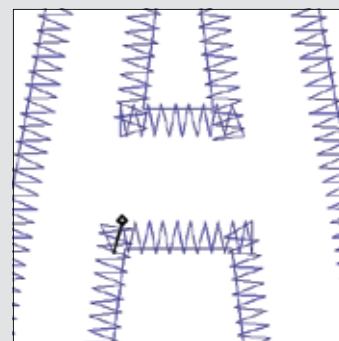

Figure 27. Select the first stitch you wish to edit.
3. Choose Level 3. If required, use the scroll bars to reposition the image so that the stitches in **Figure 27** are visible.
1. Choose the Edit button. **Left click** on the stitch shown in **Figure 27**.